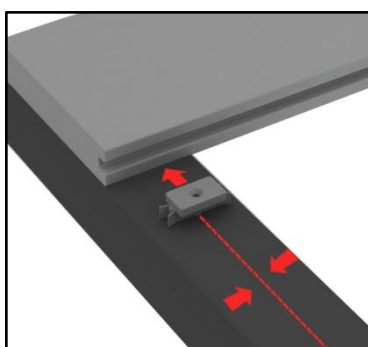

Figure 1
2. Middle clip should be installed in the middle of the keel. As shown in figure 1.